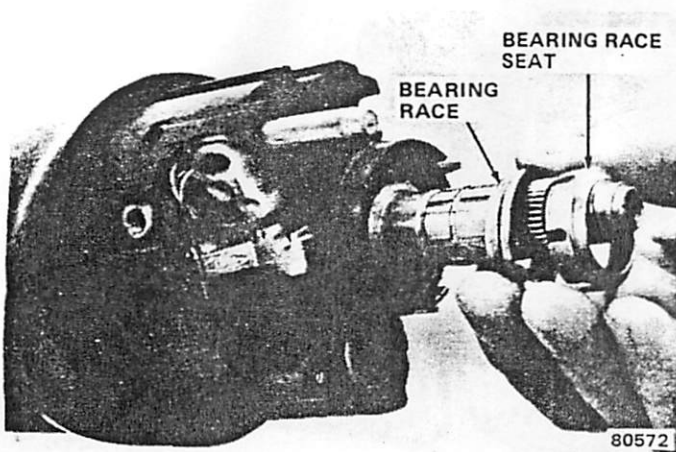

Fig. 2J-51 Upper Bearing Race and Seat Removal/Installation
(24) Remove tilt spring, guide, and retainer using screwdriver (fig. 2J-52). Press retainer inward and turn it counterclockwise until retainer tabs align with housing lugs. Be sure screwdriver blade just fits into retainer slot.